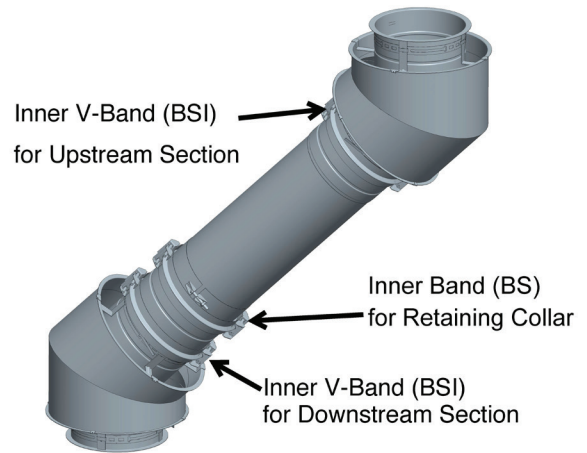

Figure 18 - Step 10-11 - Secure the Retaining Flanged Band
Step 10 - Then install the other V-band (BSI) over these flanges (like regular joint assembly). See Figure 18.